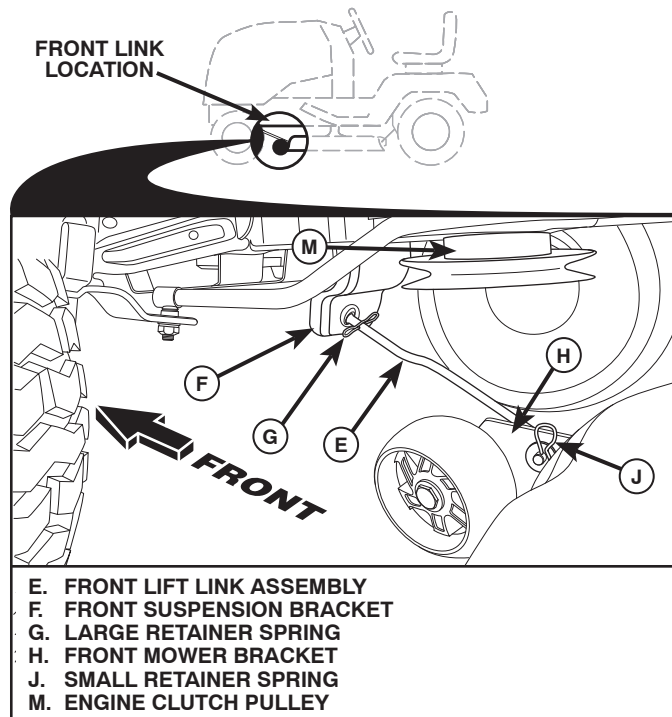

Fig. 14
7. ATTACH REAR LIFT LINKS (C) (See Fig. 14)
- Insert rod end of rear lift link (C) into hole (U) in tractor lift shaft suspension arm and pivot link down to mower.
- Lift rear corner of mower and position slot in link assembly over pin on rear mower bracket (D) and secure with large washer and large retainer spring.
8. ATTACH FRONT LINK (E) (See Fig. 14)
- From front of tractor, insert rod end of front link (E) through front hole in tractor front suspension bracket (F).
- Move to left side of mower and insert large retainer spring (G) through hole in front link (E) behind front suspension bracket (F).
- Insert other end of link (E) into hole in front mower bracket (H) and secure with washer and small retainer spring (J).